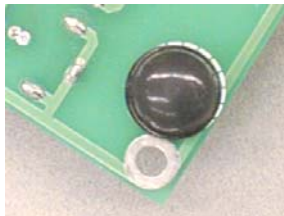

Figure 1-25
- ✓ Remove each rubber foot from the adhesive strip and affix it to the underside of your board as shown in Figure 1-25. If you are using the Board of Education, it has circles on its underside that show where each rubber foot should be attached. For the HomeWork Board, just place a rubber foot next to each plated hole at each corner.